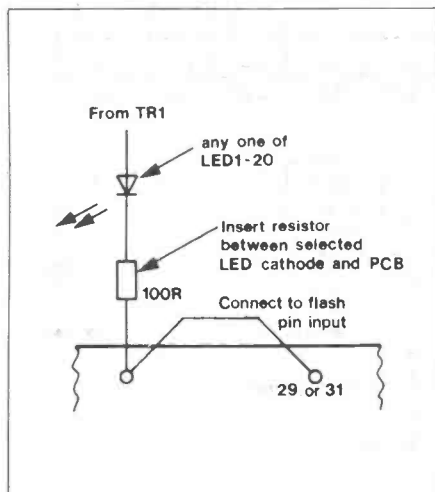

Figure 4. Connection for flashing mode
Flash input pin 31 (29) can be connected to any one (only) of LED's 1 to 10 (11 to 20) as shown in Figure 4. It is important to connect a  $100\Omega$  resistor in series with the chosen LED otherwise insufficient discharge current for C1 (C2) is developed. For example, connecting LED 10 via a  $100\Omega$  resistor to pin 9 on the PCB and connecting pin 9 to pin 31 flash input, will cause all ten LED's to flash twice a second and could signify display over voltage in a voltmeter project.